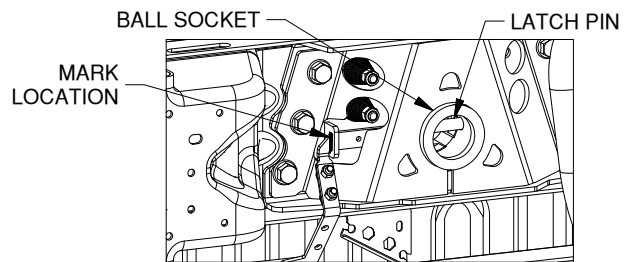

Figure G1: View of center section looking up under the bed.
6. **Check latch pin engagement.** When installed properly, the latch pin should pass through both sides of the ball socket. With the ball removed, push handle toward the rear of the truck until the handle retracts and the latch pin engages. Visually inspect the ball socket and verify that the latch pin has passed completely through both walls of the socket. Make a mark on the latching mechanism where indicated, in Figure G1, to show where the latching mechanism should be when the pin is correctly positioned in the ball socket. Retract the pin, replace the ball, and re-engage the pin. Check the marked location on the latching mechanism. If the mark is in the same location as when the mark was made, then the latch pin has gone completely through the ball socket.